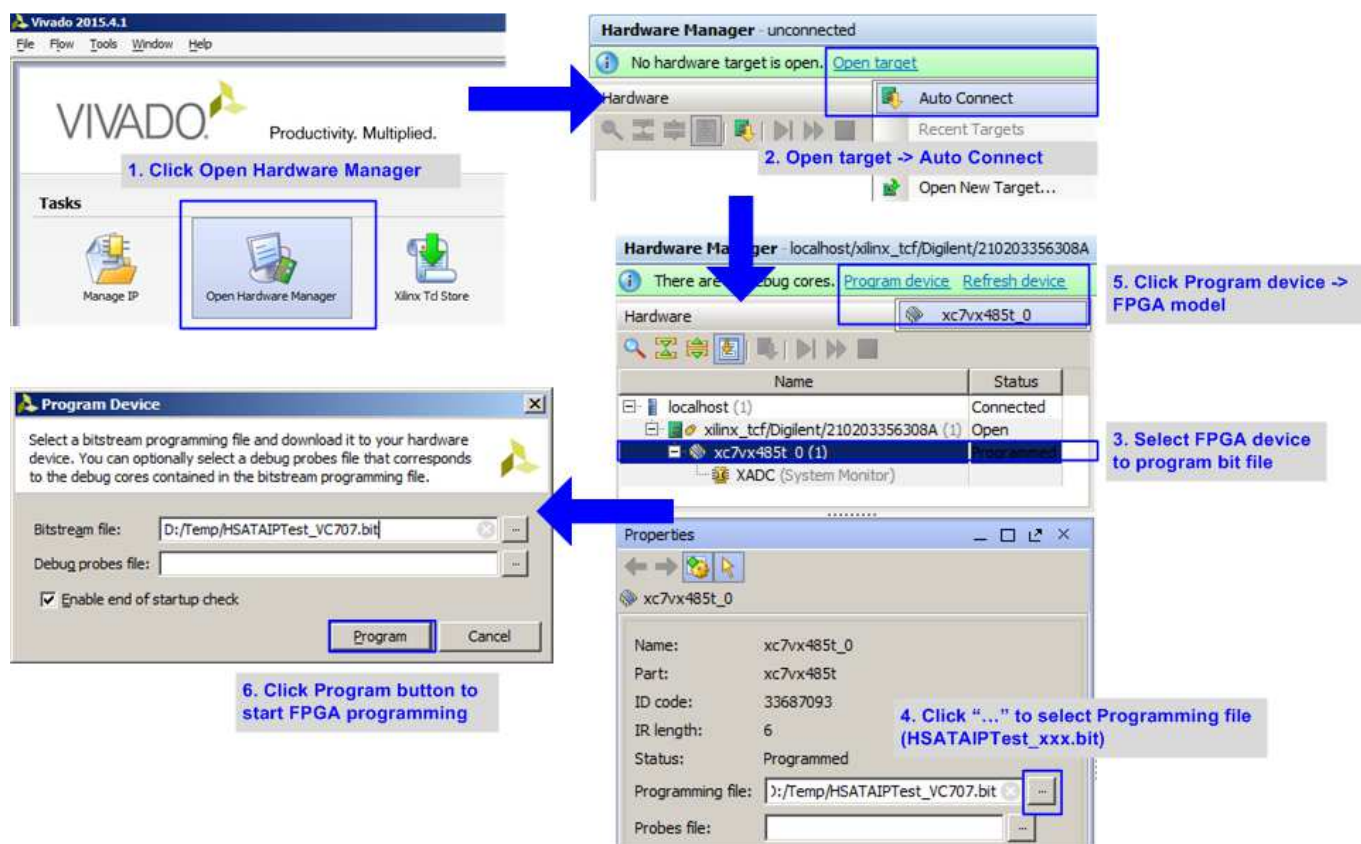

Figure 2-11 Programmed by Vivado
b) For AC701/KC705/VC707/VC709/KCU105 board, use Vivado tool to program bit file, as shown in Figure 2-11.